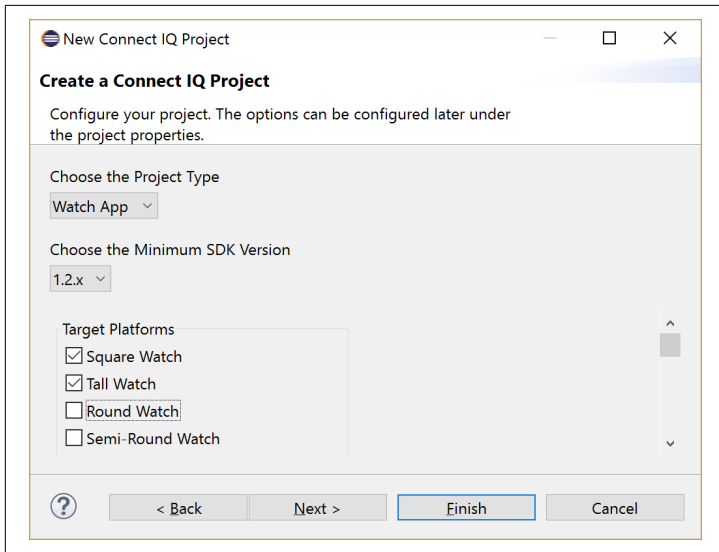

Figure 3-1. Choose these options for your first project
2. Next, you'll be prompted to choose the project type, minimum SDK version, and target platforms. Choose Watch App, version 1.2.x, Square Watch, and Tall Watch, as shown in Figure 3-1. If you own a Connect IQ device, choose it here as well. That way, you'll be able to run the app on your watch later (the Square Watch and Round Watch targets will only work in the simulator).